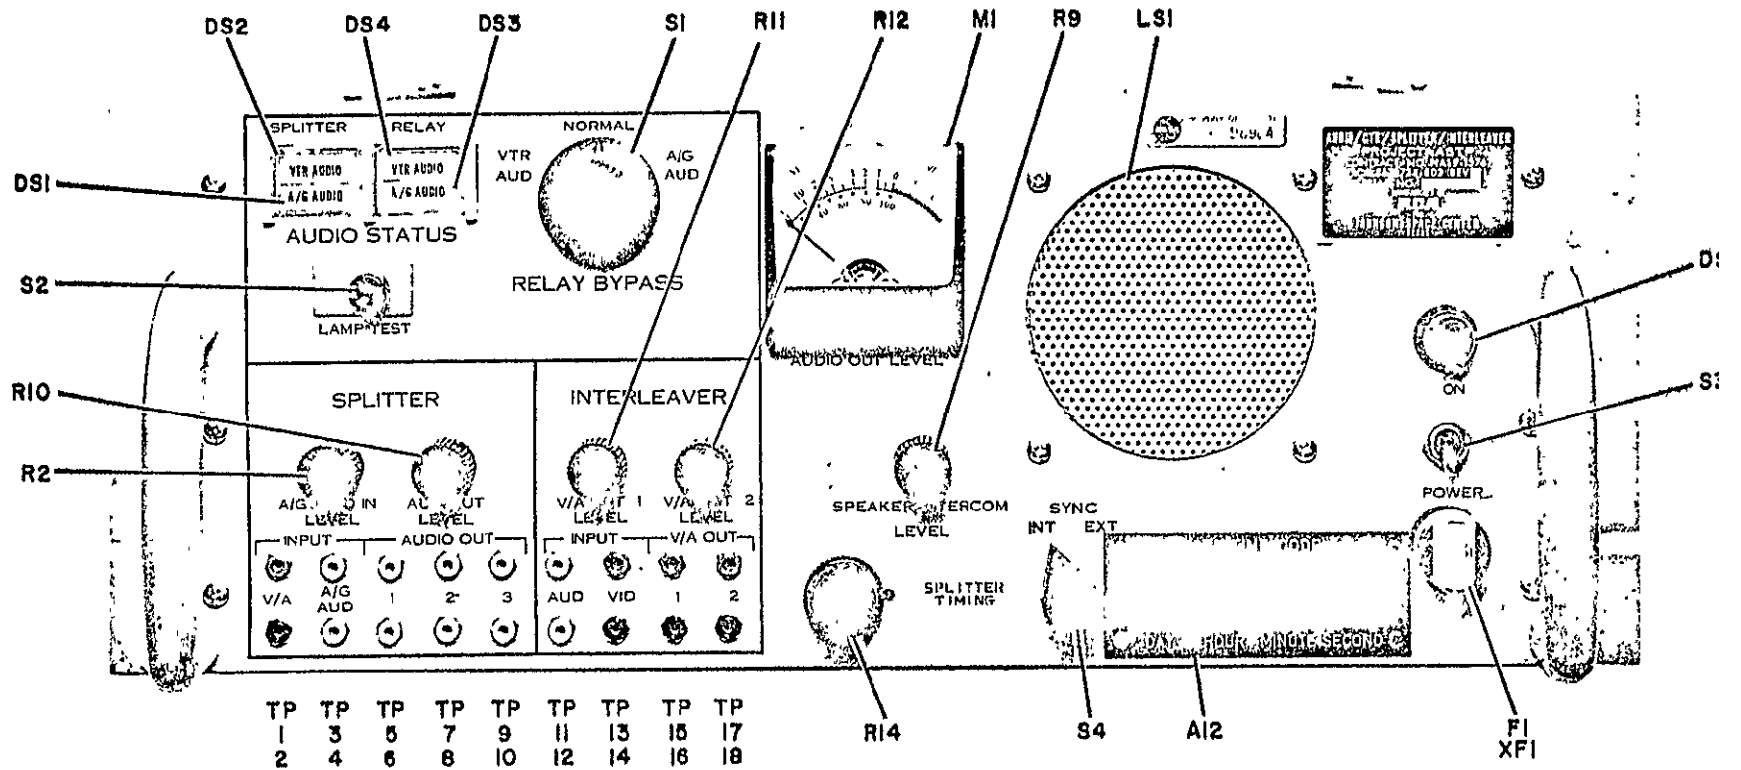

Figure 3-1. Audio/CTE Splitter/Interleaver, Front Panel
The location of the controls and indicators for the Audio Splitter/Interleaver are shown in Figure 3-1. These controls and indicators are tabulated in Table 3-1.
### 3.3.2 Operation (Refer to Figure 3-1)
1. Figure 3-1. Front Panel Controls and Indicators.
(Refer to front panel controls and indicators, Figure 3-1)